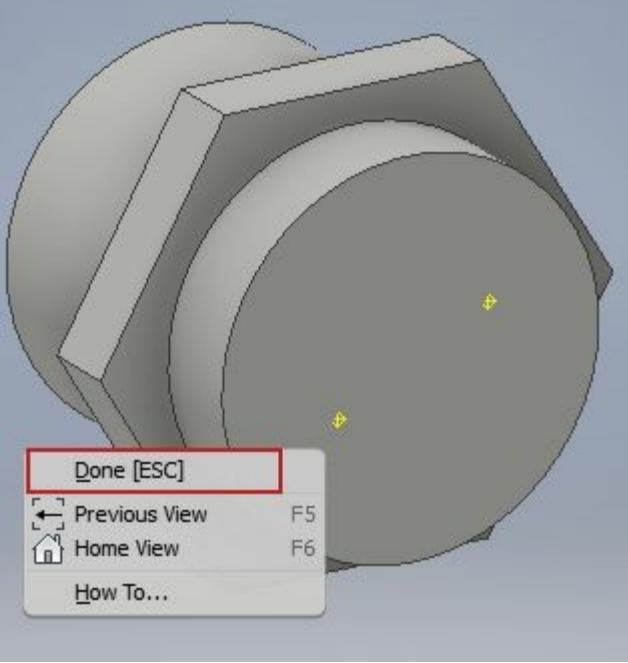

Figure-24. Completing pin creation
- After creating desired number of pins, right-click in the empty area of the modeling space and select the **Done** option from the shortcut menu; refer to Figure-24. You can also press the **ESC** button from keyboard in place of selecting **Done** option from the shortcut menu.